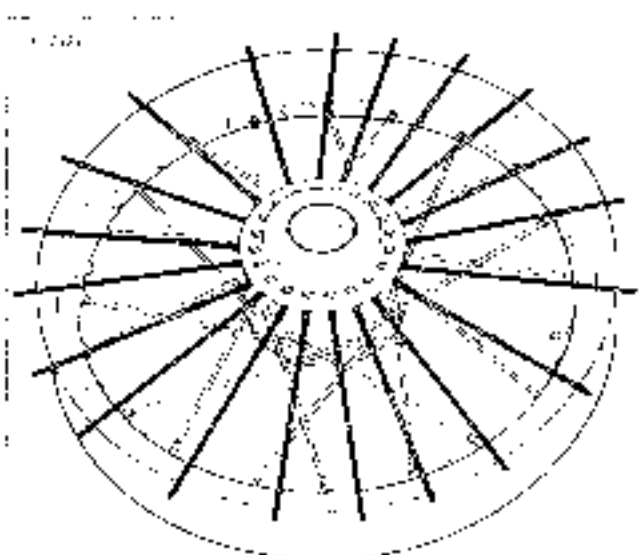

Figure 2-36. Fanning Top Flange Spokes
14. See Figure 2-36. Undo each top bundle and fan the spokes out (in a starburst pattern) around the top rim edge.